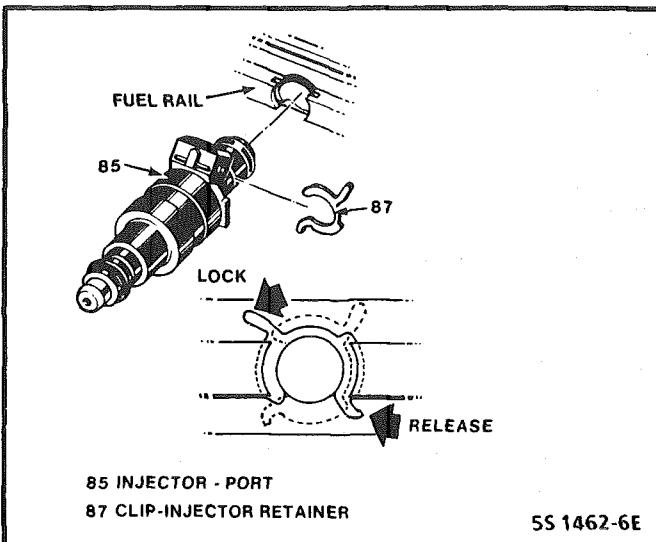

Figure C2-12 Injector Removal
Each port injector is located and held in position by a retainer clip that must be rotated to release and/or lock the injector in place, as shown in Figure C2-12.
2. Port injectors to fuel rail and pressure regulator assembly (11).
3. Rotate injector retainer clips (87) to locking position (Figure C2-12).